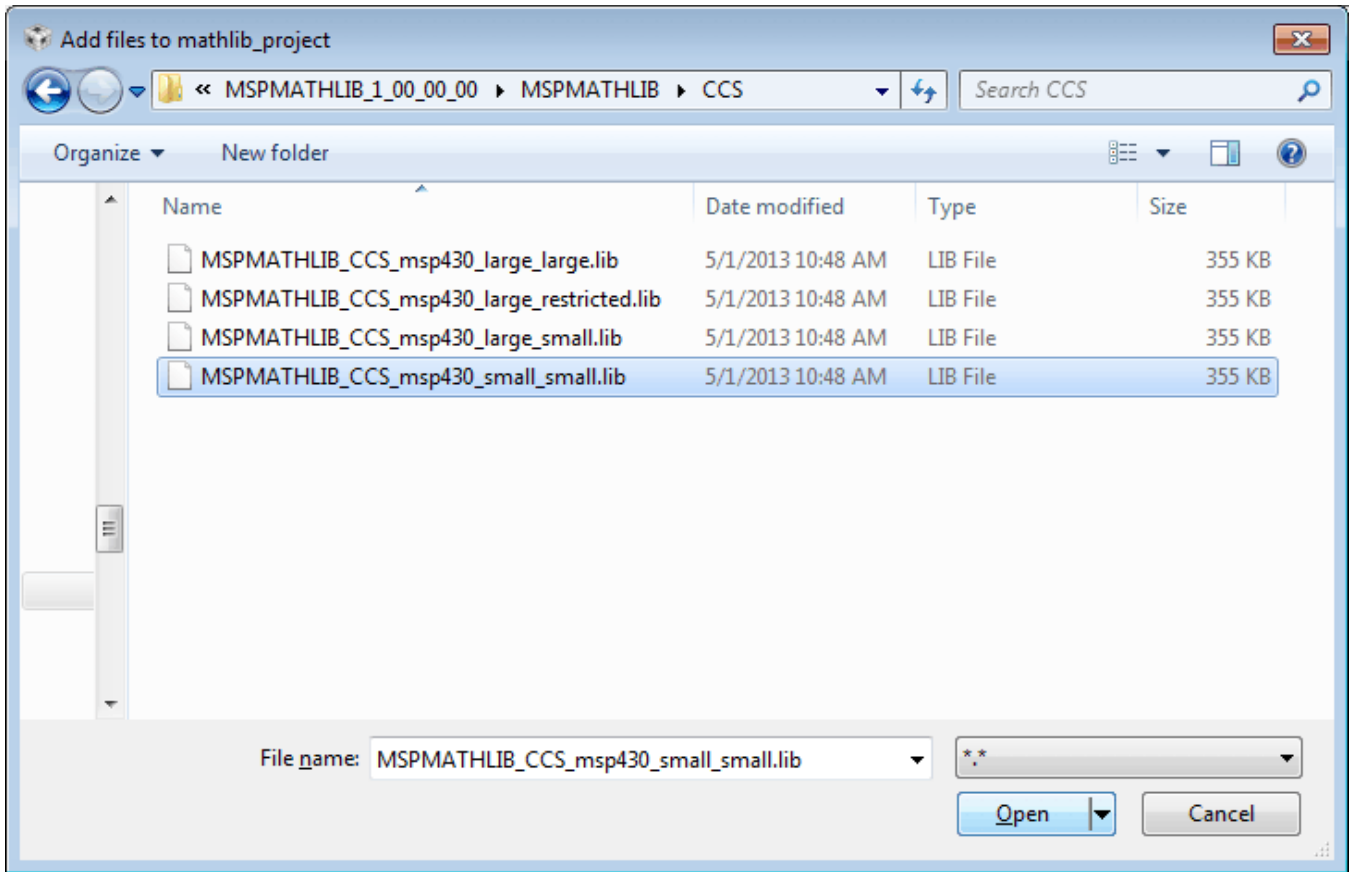

Figure 4. Select Library
5. Select the library that matches the code and data model (see Figure 4).